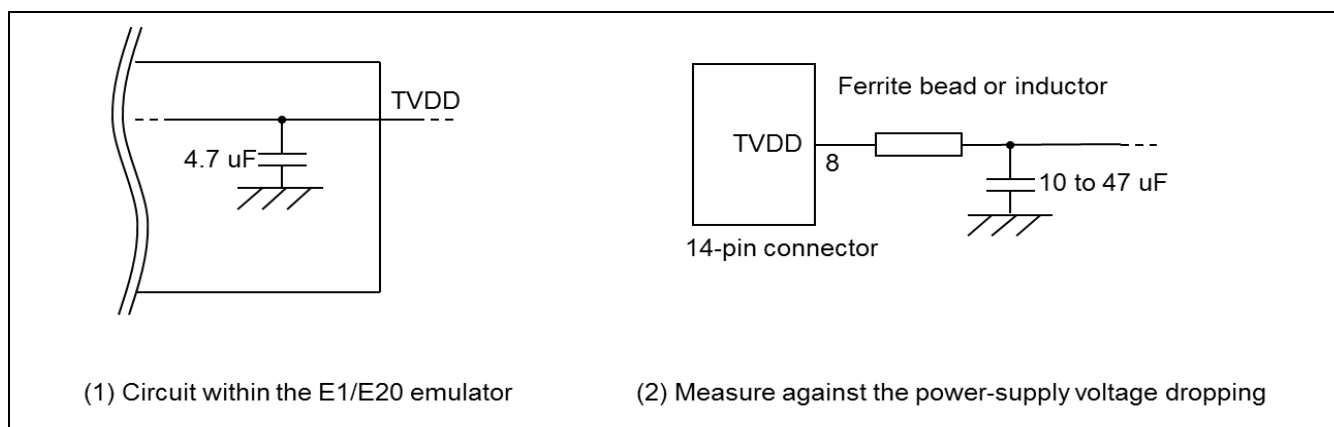

Figure 2-9 Circuit Configuration for Hot Plug-in
If there is a possibility you will be using hot plug-in connection, you will need to configure the circuit as shown below. Pin 8 of the E1 is connected to a 4.7- μ F capacitor as shown in (1) in Figure 2-9, so hot plug-in connection of the emulator may lead to a momentary drop in the power-supply voltage on the user system. This might cause the MCU to be reset.
As shown in (2) in Figure 2-9, this effect can be reduced by placing a ferrite bead (or inductor) and relatively large capacitor with low equivalent series resistance near the TVDD line of the connector for connection of the emulator. However, this measure will not completely eliminate the voltage drop. Note that hot plug-in connection is only for use during debugging, and a separately sold hot plug-in adapter is necessary to use this function otherwise.